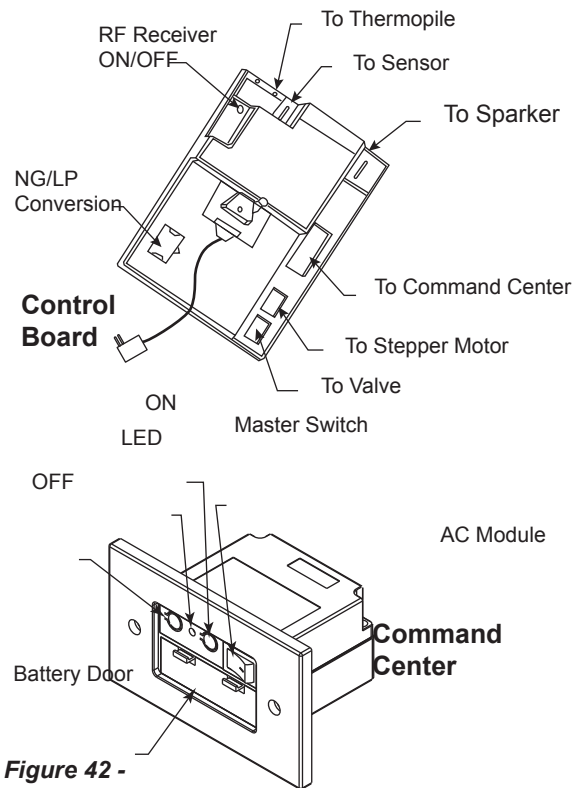

**Figure 42 -**
1. The RF receiver button located on the Control Board must be in the on position before the learn function can begin. Use paper clip to depress button. One beep for RF receiver ON or two beeps for RF receiver OFF will be given as confirmation. Refer to *Figure 42* for location.